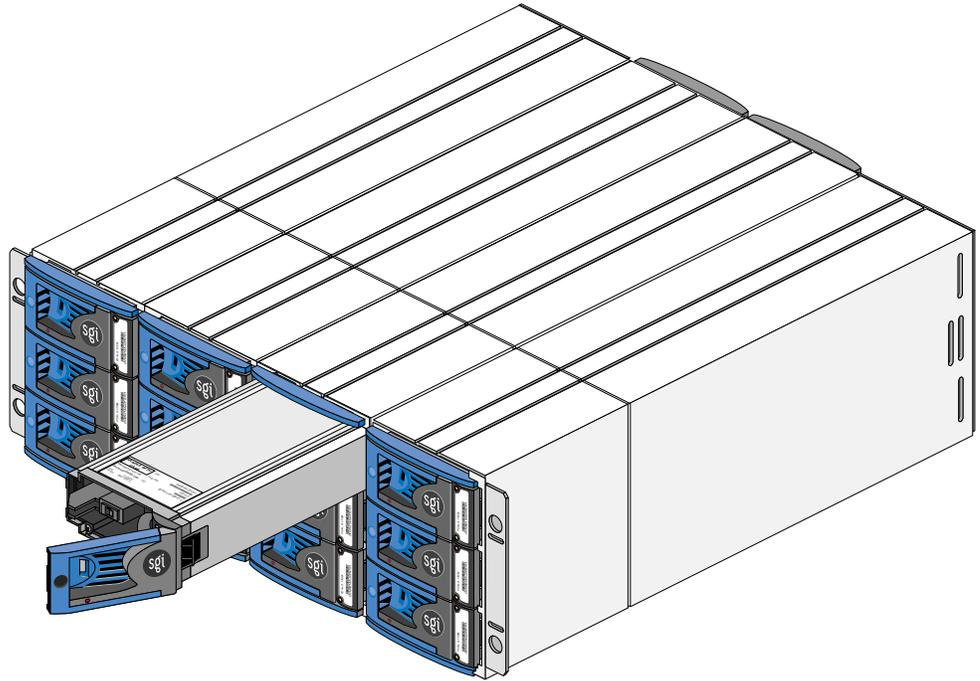

Figure 8-16 Inserting the Disk Drive Module
5. Insert the disk drive module into the chassis, as shown in Figure 8-16.